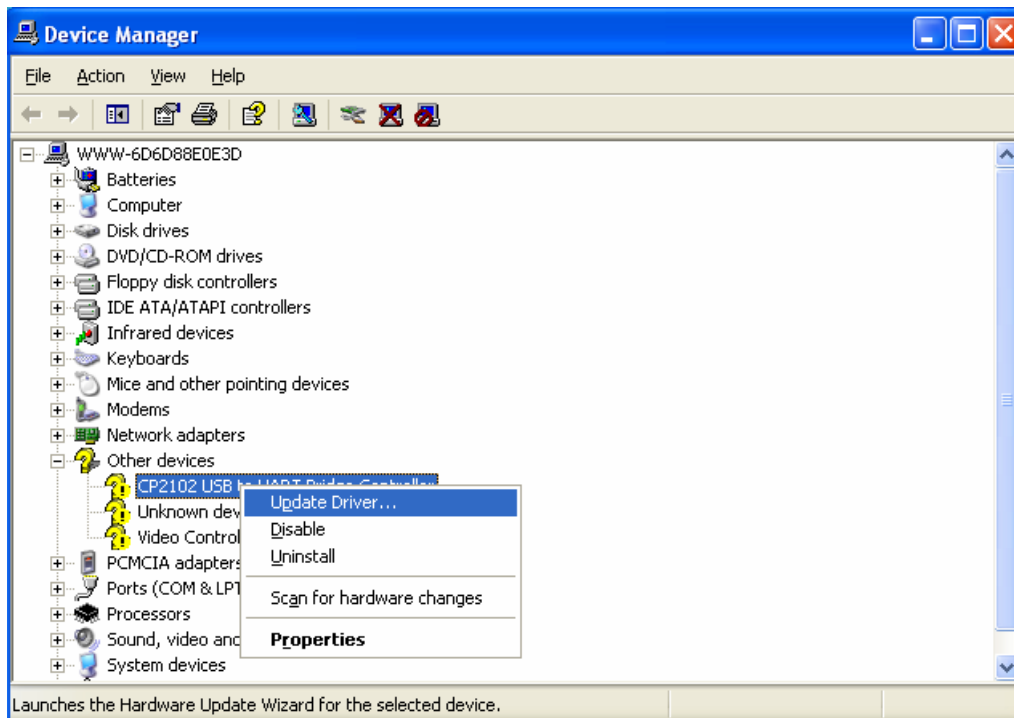

Figure 3
(3). Right-click "CP2102 USB to UART Bridge Controller" of "Other devices", and choose "Update Driver", as shown in figure3.